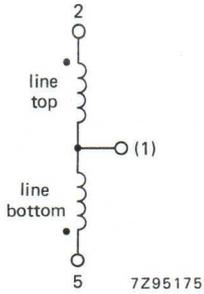

Fig. 2a Line coils.
**Line deflection coils**, series connected (Fig. 2a), terminals 2 and 5